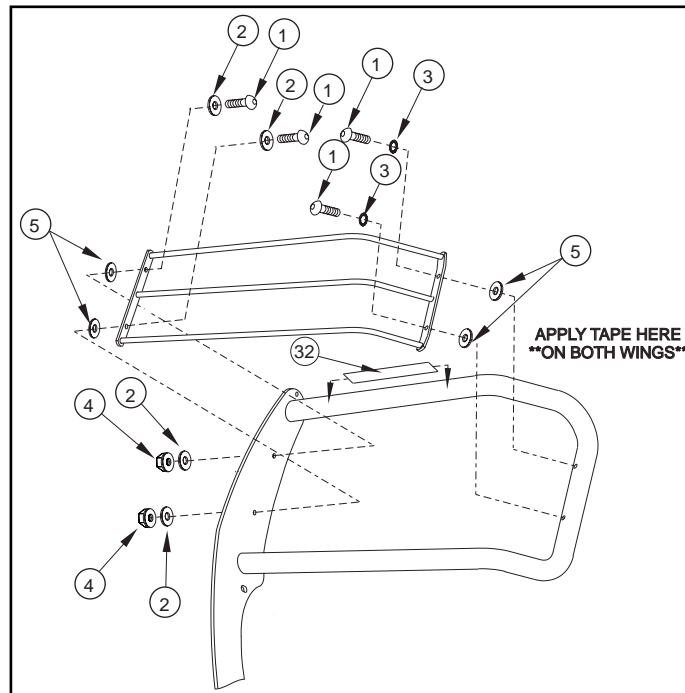

FIGURE 1
- STEP 2. Attach light guard assemblies as shown. **SEE FIGURE 1.**